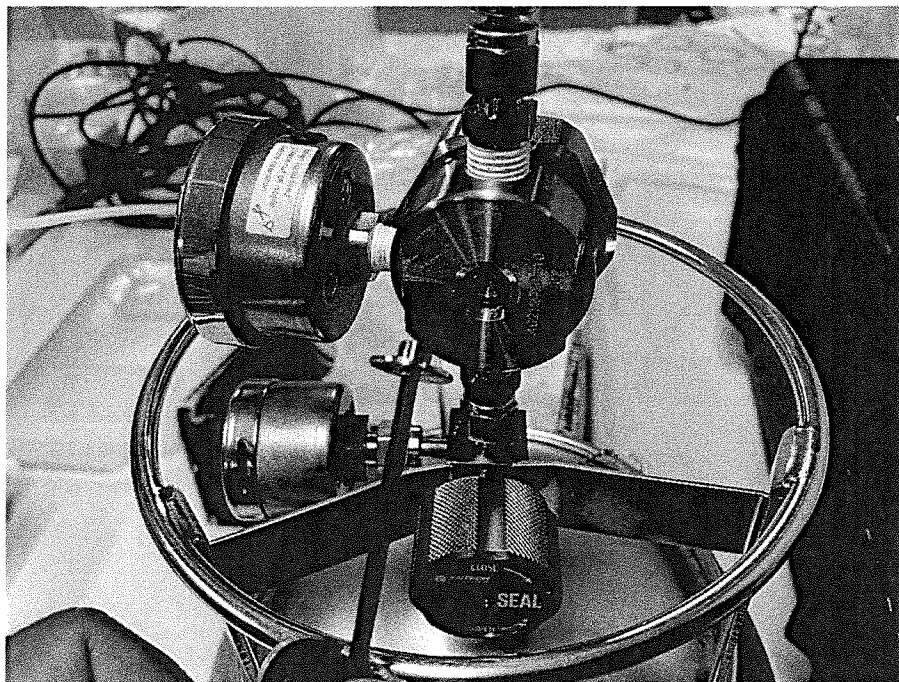

Figure 6. Flow controller with dust cover removed to expose piston gap screw.
- 3.2.1 Remove the dust cover on the side of the mechanical regulator using a 3 mm hex key wrench (Figure 6).